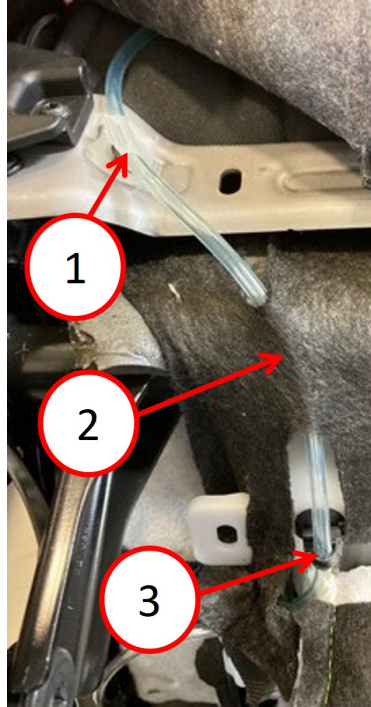

Fig. 3
5. Using a suitable light source, locate the clear hose and check that is fastened and routed correctly (Fig. 3) . If any hose kinks are found, reroute the hose so the kink is not present.
6. From the outboard side of the seat, inspect the clear hose (Fig. 3) .